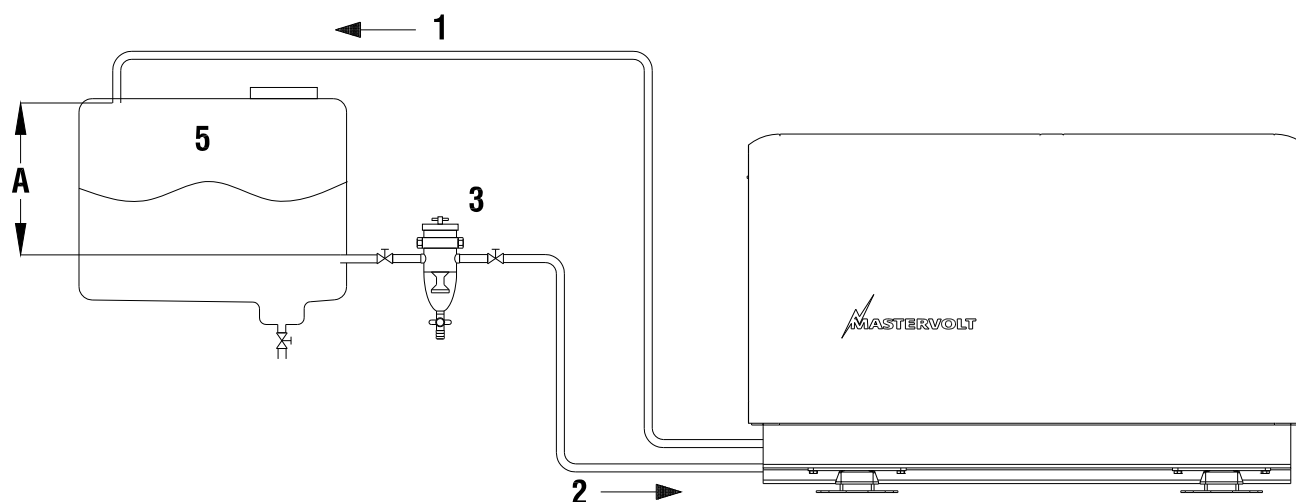

Fig. 11 Fuel supply (fuel tank is above the generating set)
When the tank is above the generating set (figure 11) we recommend ending the return line on the top of the tank. When the return is on the top - in case of a leakage the return line cannot overflow because of siphoning. One will only need a fuel cock in the fuel supply line. When the tank is below the generating set we recommend ending the return line on the bottom of the tank (A) below the inlet of the supply line.